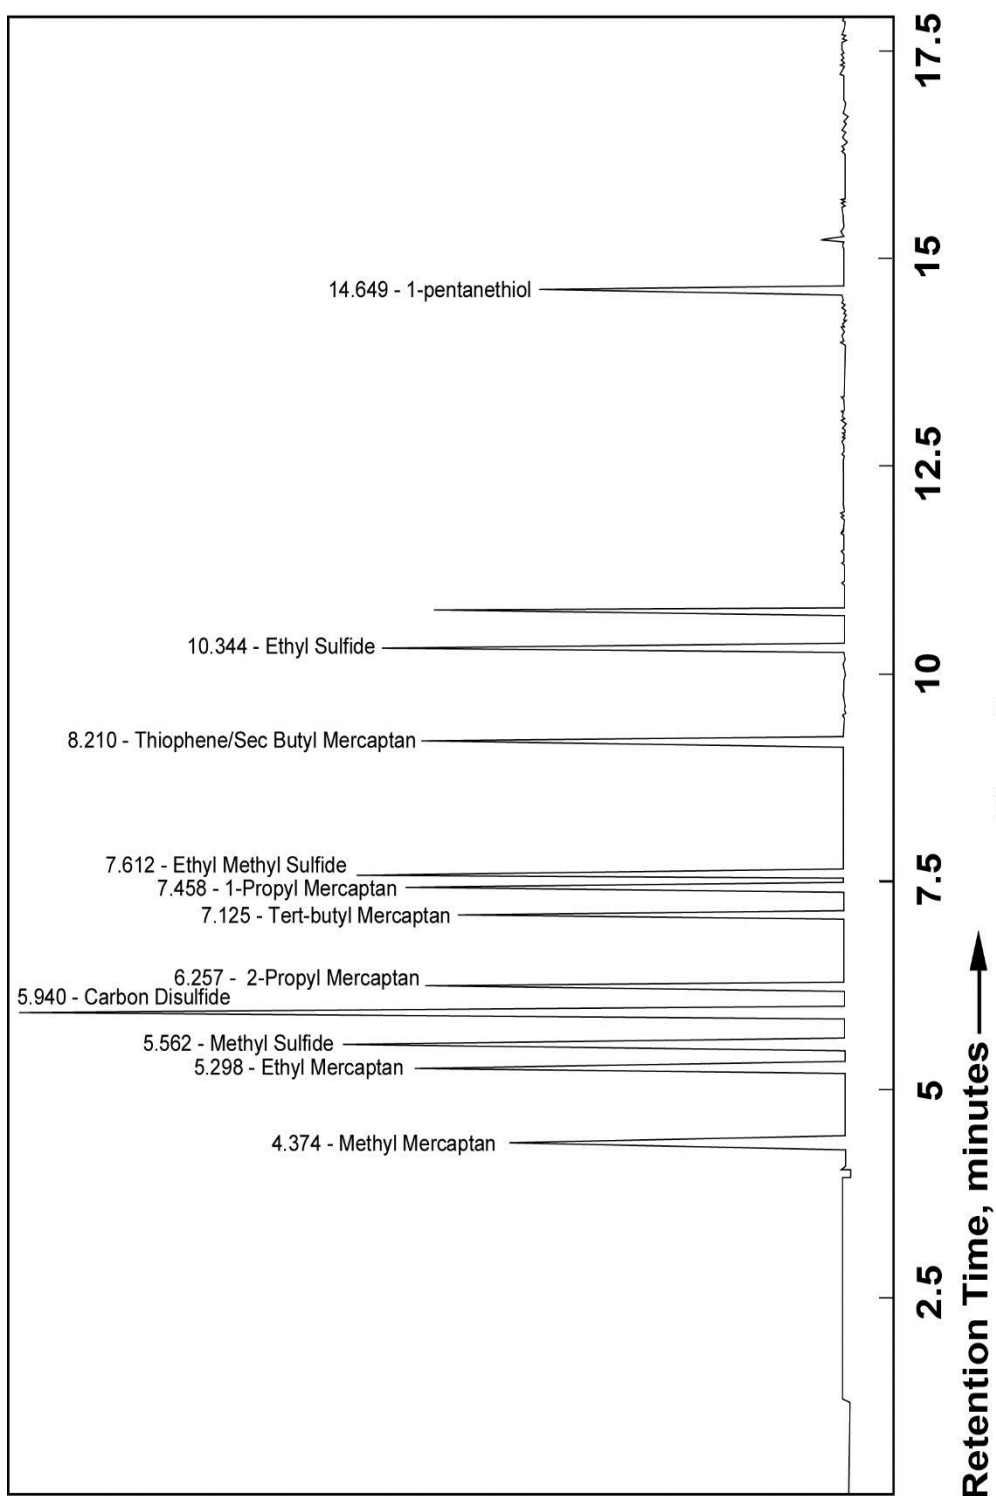

Figure 3
13. Identify the components of interest by comparing the resultant chromatogram to the Typical Chromatogram (see Figure 3).